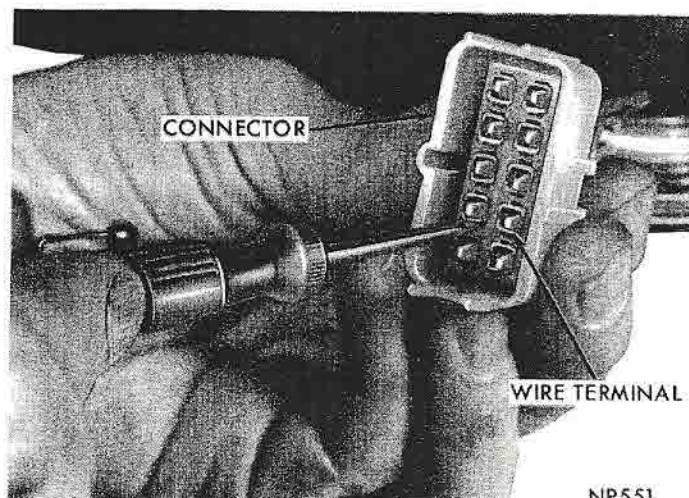

Fig. 4—Removing Wires from Connector
(6) While pulling slightly on wire (Fig. 4), insert a small screwdriver (with thin blade) above and below terminal to release tangs, then pull wire from connector. Remove all wires in same manner.